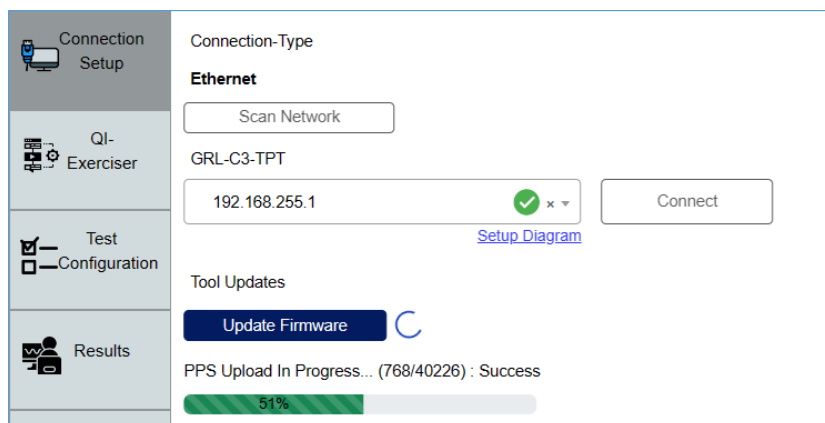

FIGURE 7.6: UPDATE GRL-C3-TPT FIRMWARE- #3
3. The GRL-C3-TPT application will check the existing version of the E-Load/PPS firmware on the GRL-C3-TPT tester hardware before updating. If the latest E-Load/PPS firmware already exists on the tester, click “Ok” to bypass the update process and proceed or otherwise click “Cancel” to update the E-Load/PPS firmware again (Figure 7.6 below).